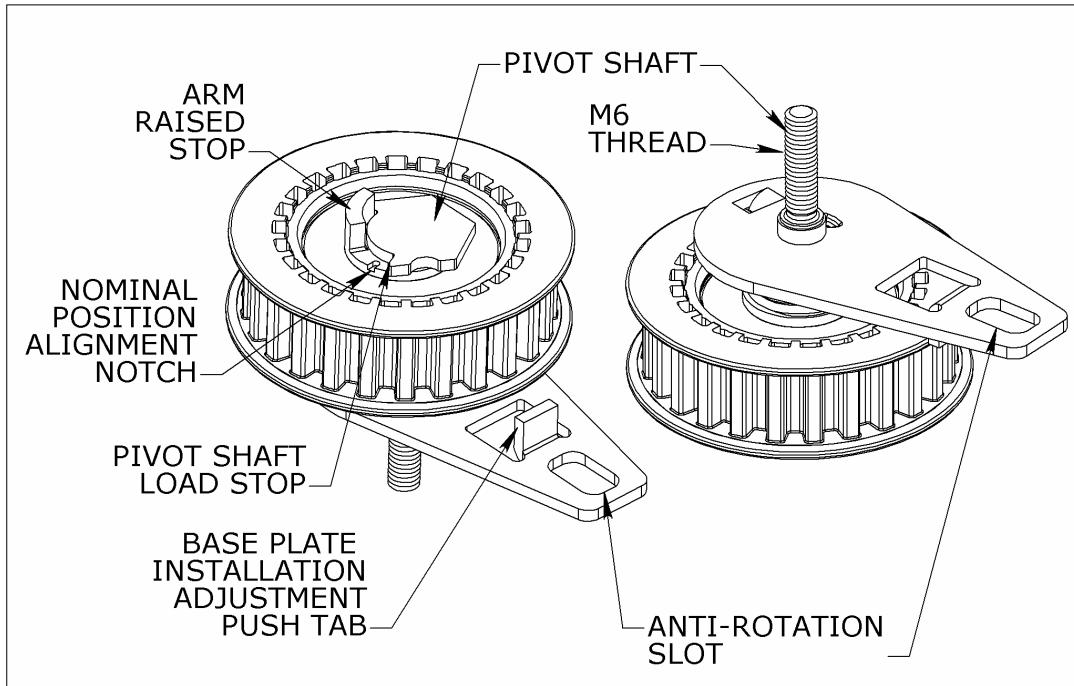
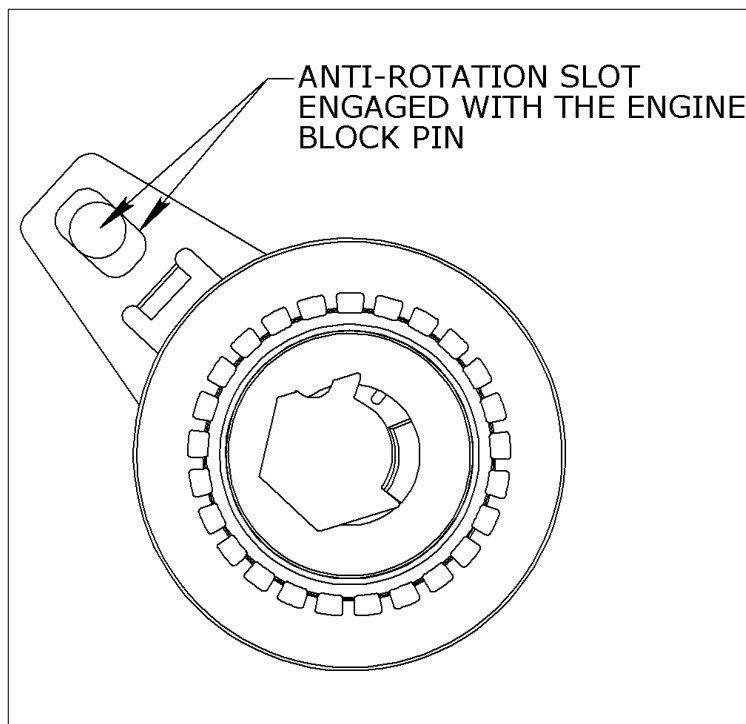

Figure 2: Balance Shafts Belt Tensioner
Figure 3: Initial Tensioner Setup
5. Fit the M6 threaded shaft of the new tensioner (Figure 2) into the engine bracket hole, and ensure that the tensioner's base plate hookup slot (Figure 3) is engaged in the Anti-Rotation pin on the engine block.